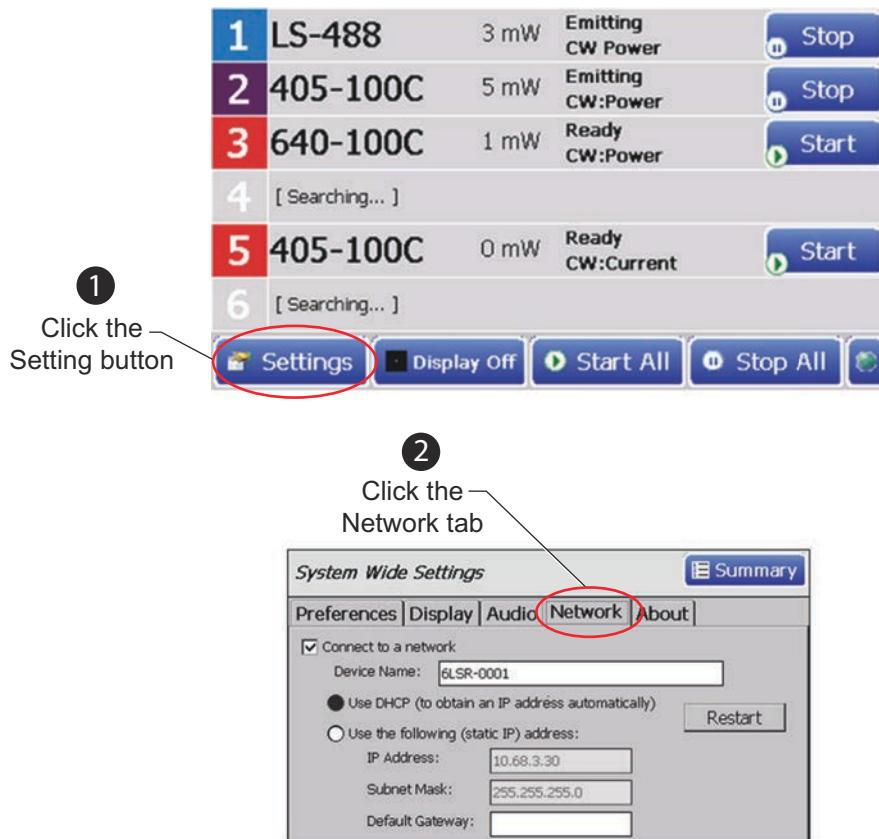

Figure 11-18. Configure the OBIS Scientific Remote
1. Configure the Scientific Remote, as shown in Figure 11-18.